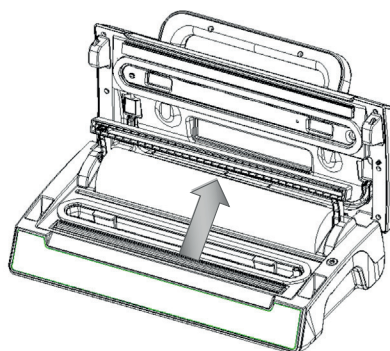

Fig. 2
2. Make sure the bag cutter is on one end of the cutter rack, then put the cutter rack to the back. (Fig.2)